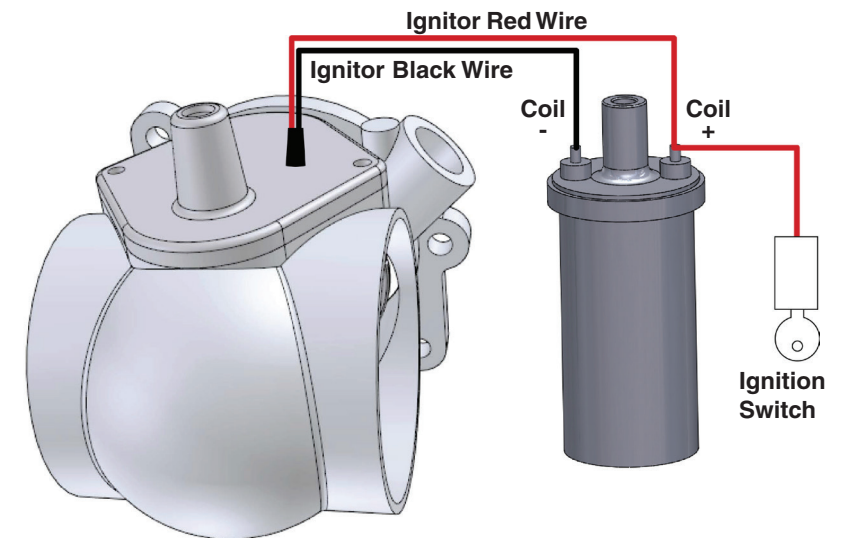

FIGURE 4
1. Typical installations using the original distributor mounted coil require a small hole to be drilled into the distributor housing for the wire exit, See Figure 1. Use a .25" drill bit to make a hole at the location indicated in the illustration below. If a remote coil adapter will be used, the wire exit hole can be drilled in the adapter instead, see Figure 4.
14. For installations with remote coil adapters, install the provided grommet to both the red and black wire and pull the wires through the hole in the adapter plate. Attach the red wire to the coil positive terminal and the black wire to the negative coil terminal. SEE FIGURE 4